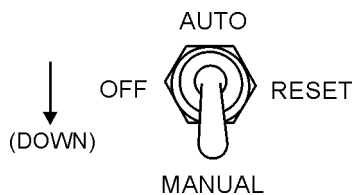

Figure 43. Off/Manual/Auto Switch (Manual)
6. Place the Off/Manual/Auto switch (Figure 43) in the **MANUAL** position (down). Observe that the engine begins to crank.